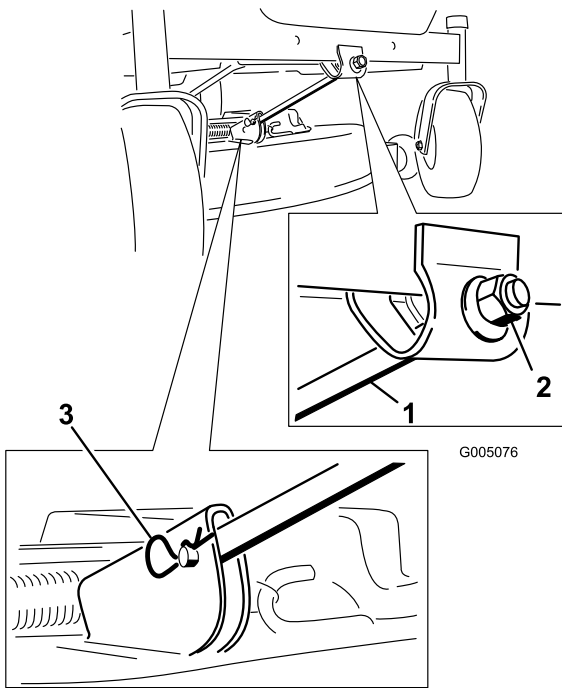

Figure 55
4. Remove the hairpin cotter and clevis pin from the front support rod (Figure 55). Carefully lower the front of the mower deck to the ground.
6. Attach the front support rod to the mower deck with the clevis pin and hairpin cotter (Figure 55).